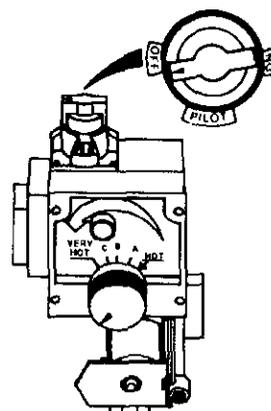
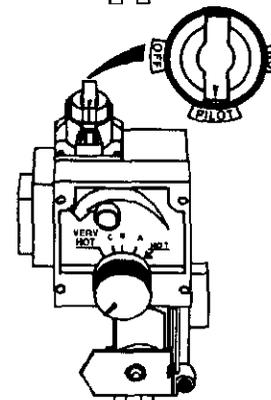

Figure 10
Figure 11
4. Set the thermostat to lowest setting by turning the water temperature dial clockwise, (↻) to its lowest temperature setting (with arrow on dial) as shown. **DO NOT FORCE.** (Figure 10, Page 25)
6. Wait five (5) minutes to clear out any gas. If you then smell gas, STOP! Follow "B" in the safety information above on this label. If you don't smell gas, go to the next step.
9. If you don't smell gas, turn knob on gas control counter-clockwise (↺) to "PILOT" position. (Figure 11, Page 25)
10. Push in control knob all the way and hold down. Immediately light the pilot with a match. Continue to hold control knob in for about one (1) minute after the pilot is lit. Release knob and it will pop back up. Pilot should remain lit. If it goes out, repeat steps 5 through 10.
- If the pilot will not stay lit after several tries, depress and turn the gas control knob clockwise (↻) to "OFF" and call your service technician or gas supplier. (Figure 10, Page 25)
4. Turn gas control knob clockwise (↻) to "OFF" position. Knob cannot be turned from "PILOT" to "OFF" unless knob is depressed slightly. **DO NOT FORCE.** (Figure 10, Page 25)